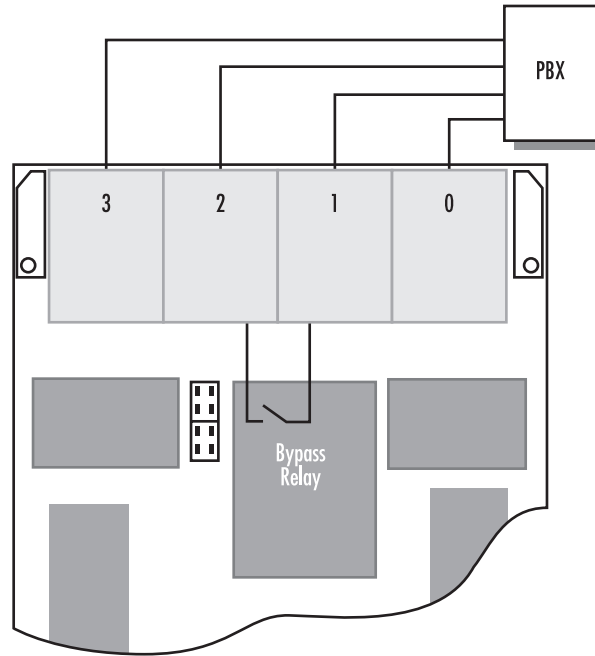

Figure 18. All four ports connected to PBX
- All four ports (ports 0–3) are connected to a subscriber PBX as shown in figure 18 on page 37.